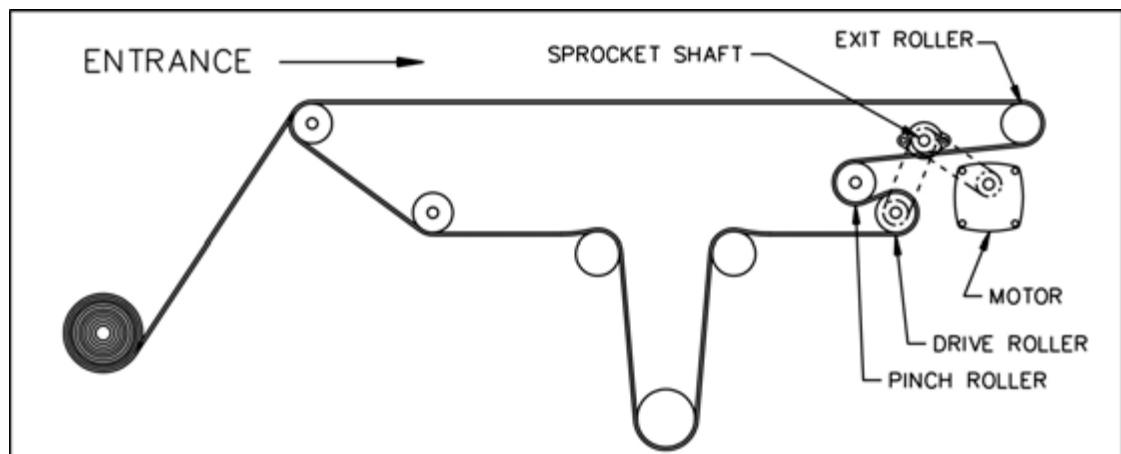

Figure 7-19 Belt Path
2. Attach the leading of the new belt to the end of the old belt (see Figure 7-19).
4. When the belt has been pulled through the furnace chamber, detach it from the old belt and thread a pull wire through the rollers and drive drum, as shown in Figure 7-19 Belt Path. Pull the leading edge of the belt to the entrance and splice.